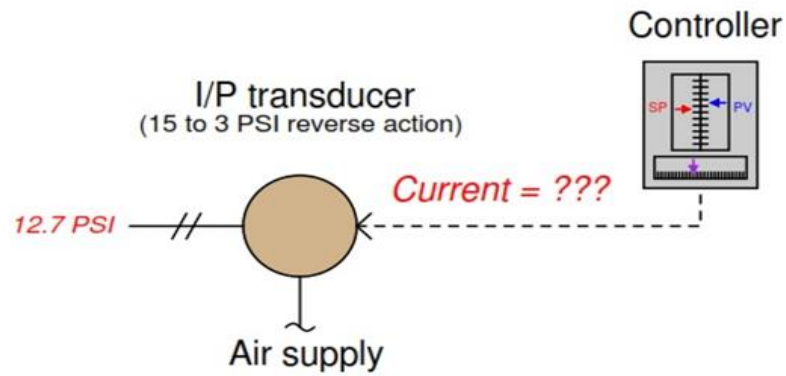

Figure 2
- c) Sketch the P&ID diagram based on the Process Flow Diagram (PFD) in Figure 2. Write the function of each piping and devices.
Figure 2 (c) shows the doors of public vehicles by assuming that the opening and closing of the doors are controlled by two button switches ON and OFF. When the button switch ON is pressed, the doors will open. When the button switch OFF is pushed, the doors will close. Draw with complete labelling of a pneumatic circuit diagram used to operate the doors and write the working principle of the circuit.